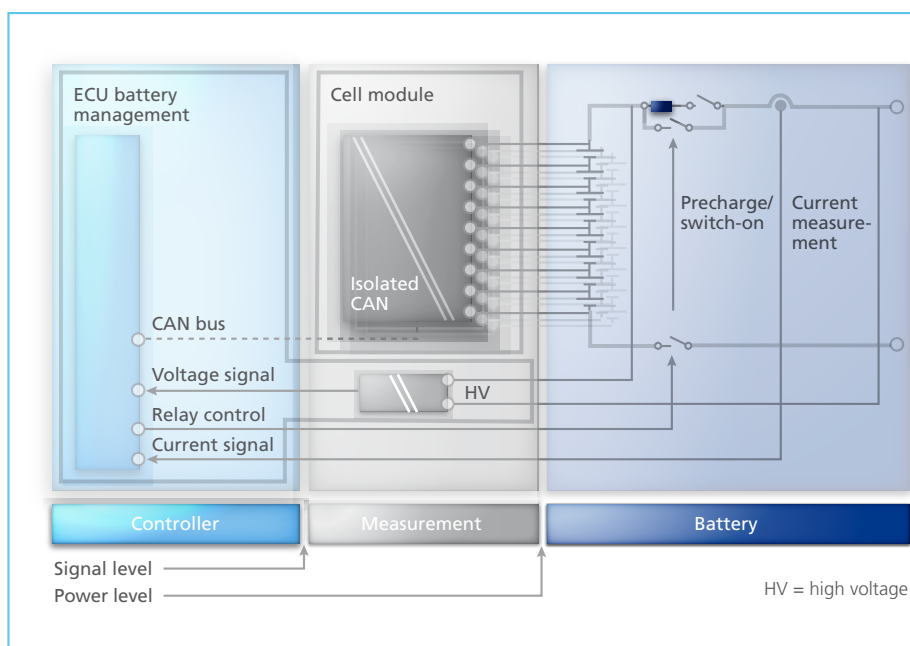

Figure 1: Interfaces in the HIL testing of battery management systems.
A BMS is divided into two parts, the BMS ECU itself and the cell module (CM). They are connected to one another via an isolated CAN (figure 1). Each CM is assigned to a cell stack – a subset of all the single battery cells. The CM is responsible for measuring cell voltages and initiating discharge in specific single cells. To do so, it has a switch (transistor) for each cell. When the transistor is switched on, it connects the cell to a load via a resistance. If some cells have a higher voltage than the others, the ECU discharges them by activating their associated switches. This mechanism keeps all the battery's cells at the same charge level, leveling out differences in cell behavior.